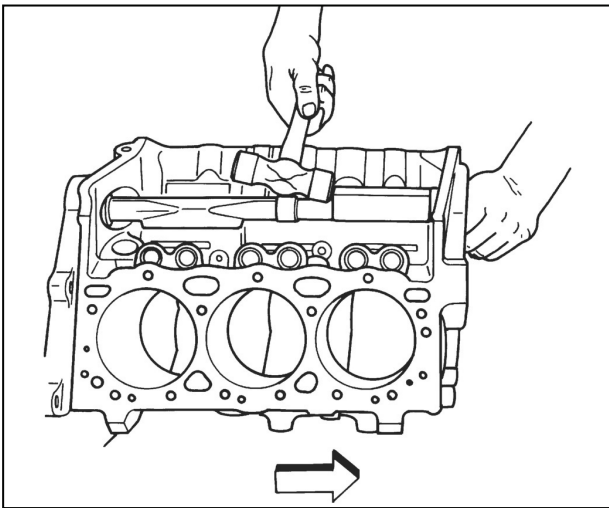

Figure 12-16 Removing Balance Shaft
5. Balance shaft using a soft faced hammer (figure 12-16).